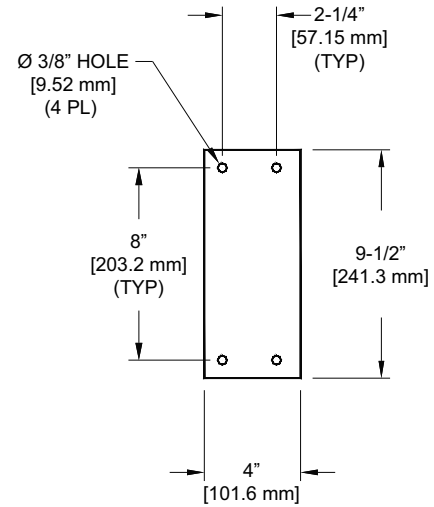

Figure 3: Hole Pattern
2. Using the hole pattern shown in Figure 3, mark and drill appropriate pilot holes into mounting surface.